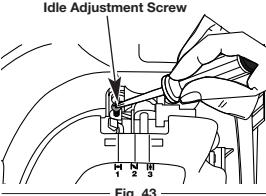

Fig. 43
The idle speed of the engine is adjustable. An idle adjustment screw is between the air filter cover and the engine starter housing (Fig. 43).
2. Release the throttle trigger and let the engine idle. If the engine stops, insert a small Phillips screwdriver in between the air filter cover and the engine cover (Fig. 43). Turn the idle speed screw in, clockwise, 1/8 of a turn at a time (as needed) until the engine idles smoothly.